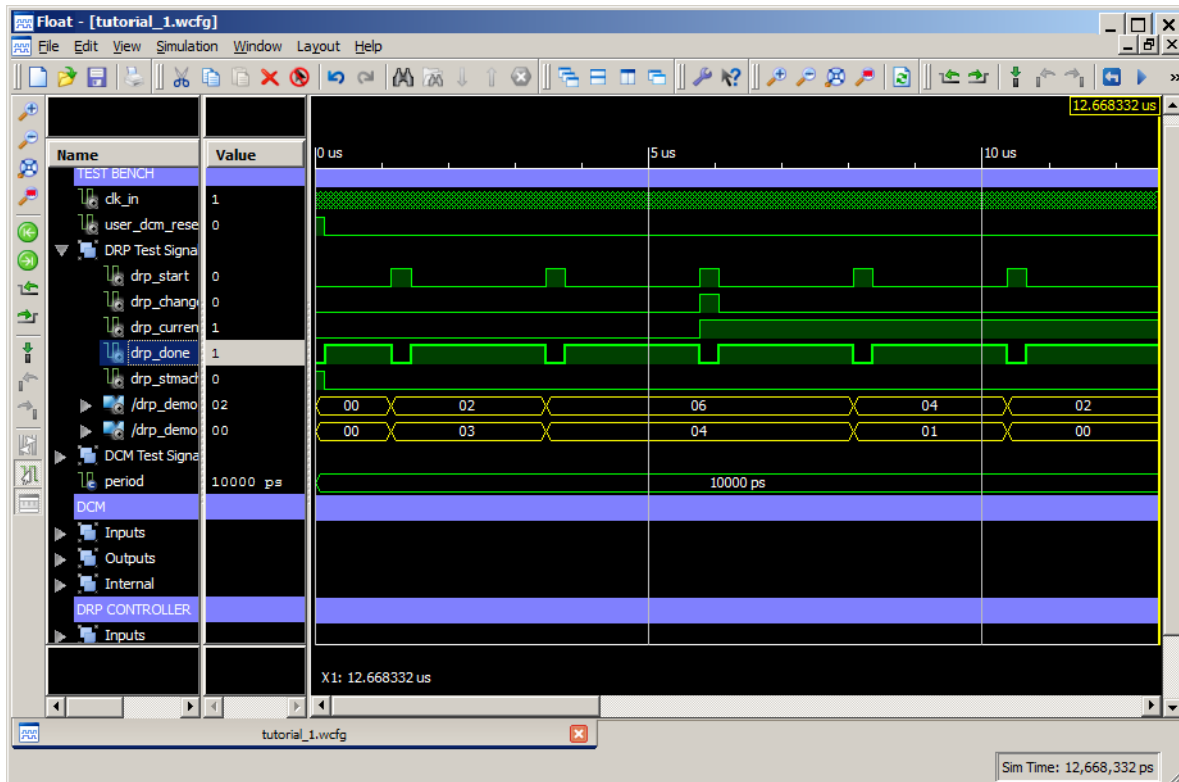

Figure 4-23: Wave Window After 13 us Simulation Time
1. Select **File > Save As** to assign a name to the current wave configuration (Refer to Figure 4-23).
The wave configuration should look similar to Figure 4-23.